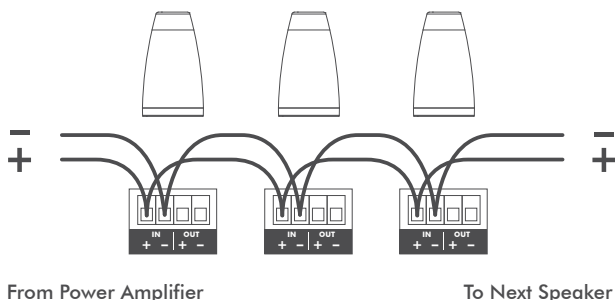

FIGURE 17: PARALLEL CONNECTION
14. When using multiple speakers you can connect the speakers either in parallel or in the loop through method as shown below (see figure 17 & 18).